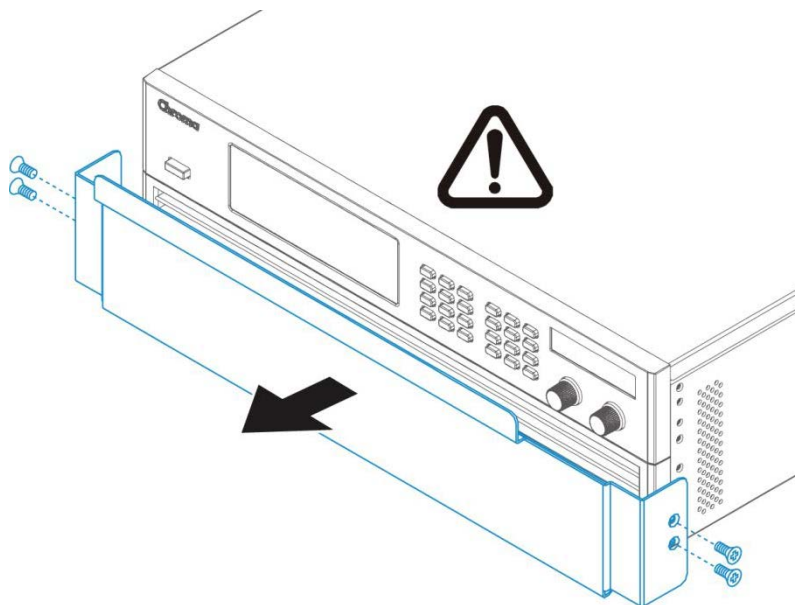

Figure 2-2
- (1) Remove the iron holder of the front panel as Figure 2-2 shows and keep it in case the Power Supply is required for return service.
- (2) Be sure the Power Supply is connected to the AC line input that meets the specification.
- (3) The instrument must be installed in an air-circulated area to avoid the internal temperature getting too high.
- (4) The ambient temperature does not exceed 50°C (40°C for models of 1000V).